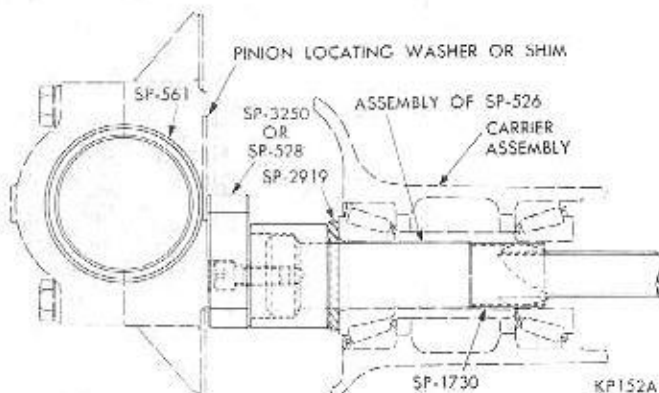

Fig. 27—Pinion Preload with Spacer (8-3/4" Ring Gear)
(1) With tool installed in carrier, remove main screw nut, centralizing washer, compression sleeve and front pinion bearing cone.
(2) Install the pinion bearing spacer, larger bore of spacer next to rear bearing.
(3) Position sleeve (SP-1730) in front bearing cone making sure sleeve is flush with rear of bearing.
(4) Position original shims, previously removed from drive pinion stem, over the sleeve and slide the sleeve, bearing and shims over main screw of tool until shims rest against spacer (Fig. 27).
(5) Install tool compression sleeve (SP-535) (square end out), centralizing washer (SP-534) and main screw nut (SP-533). Turn carrier in stand to bring nut on top.
(6) Tighten tool nut to 240 foot-pounds with a torque wrench, using holding Tool C-3281 on the compression sleeve to hold the assembly in several positions to make a complete revolution while tightening. Remove holding tool and rotate the pinion several revolutions in both directions to seat the bearing rollers. Recheck torque to 240 foot-pounds (torque may have diminished as bearing rollers were seated by rotating). **Correct bearing preload reading can only be obtained with nose of carrier up.**
(7) Using inch-pound torque wrench C-685, measure pinion bearing preload by rotating pinion with handle of wrench floating, read the torque while